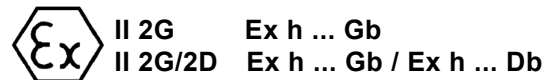

Fig.3.4
- 1) ATEX 114 (2014/34/EU) - The pump models listed in the Declaration of Conformity may be used in some potentially explosive atmospheres. Pumps must be used in an environment which comply with the marking. Otherwise pumps can be the source of ignition. The pump models listed on the Declaration of Conformity are marked on the type plate. (Fig. 3.4)